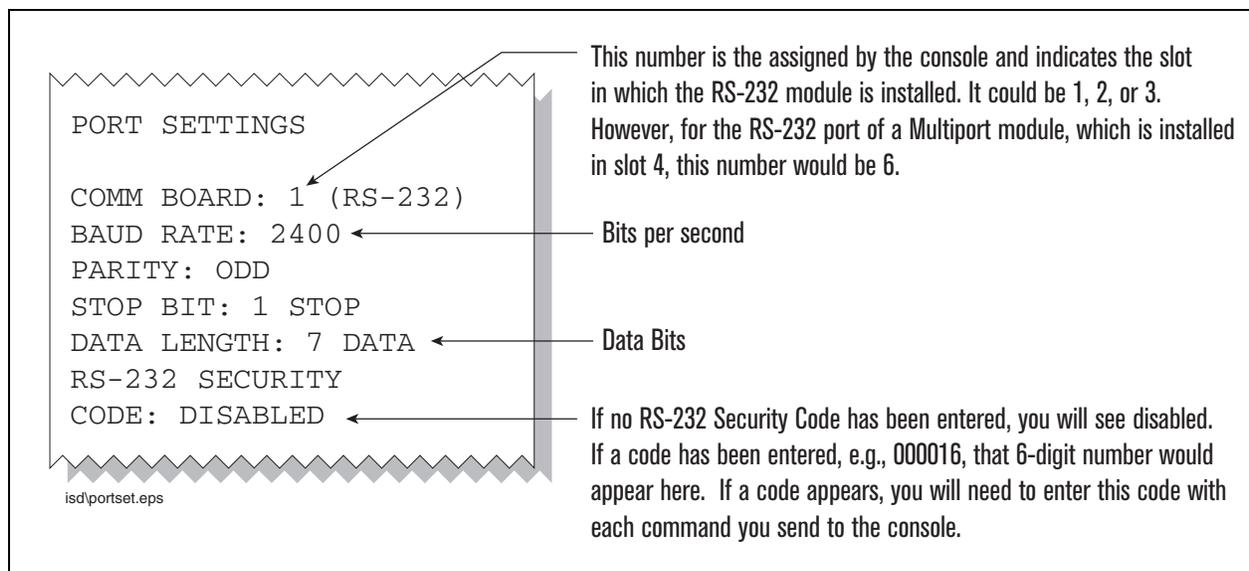

Figure 33. Console comm port settings printout example
- d. Press the PRINT key to printout the port settings for all communication modules installed in the console. Figure 33 shows an example port settings printout with the RS-232 module installed. Using the console port settings in the example below, your HyperTerminal 'Port Settings' window entries would be Bits per second - 2400, Data bits - 7, Parity - Odd, Stop Bits - 1. For the 'Flow Control' entry select None. Click OK.